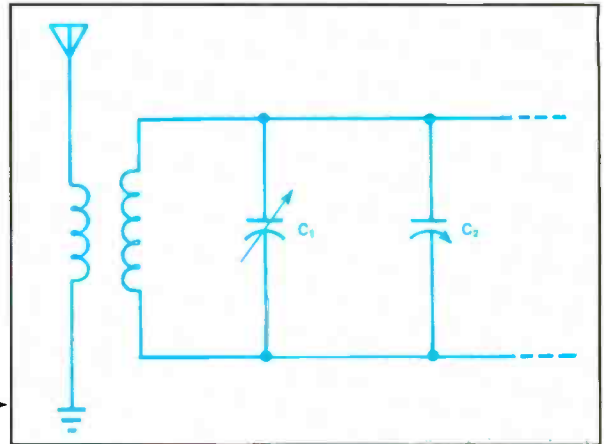

Figure 2. →
2. Tune the resonant circuit in Figure 2 to a lower frequency by moving the plates of C2